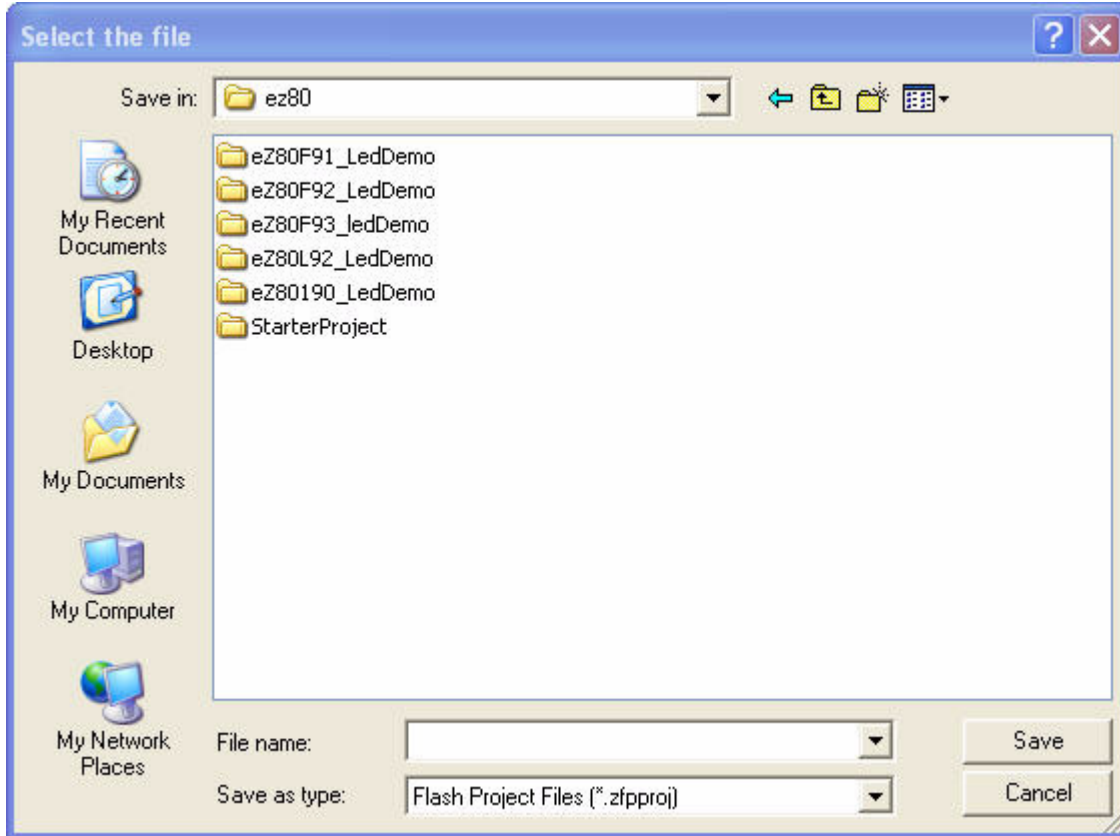

Figure 80. File Selection Window
You can also type the path and file name for the new project directly into the **Project File** text box and move to step 8. **Select the File** window is displayed (see Figure 80).
4. In the **Select the File** window (see Figure 80), select the folder in which you want to save the new project.